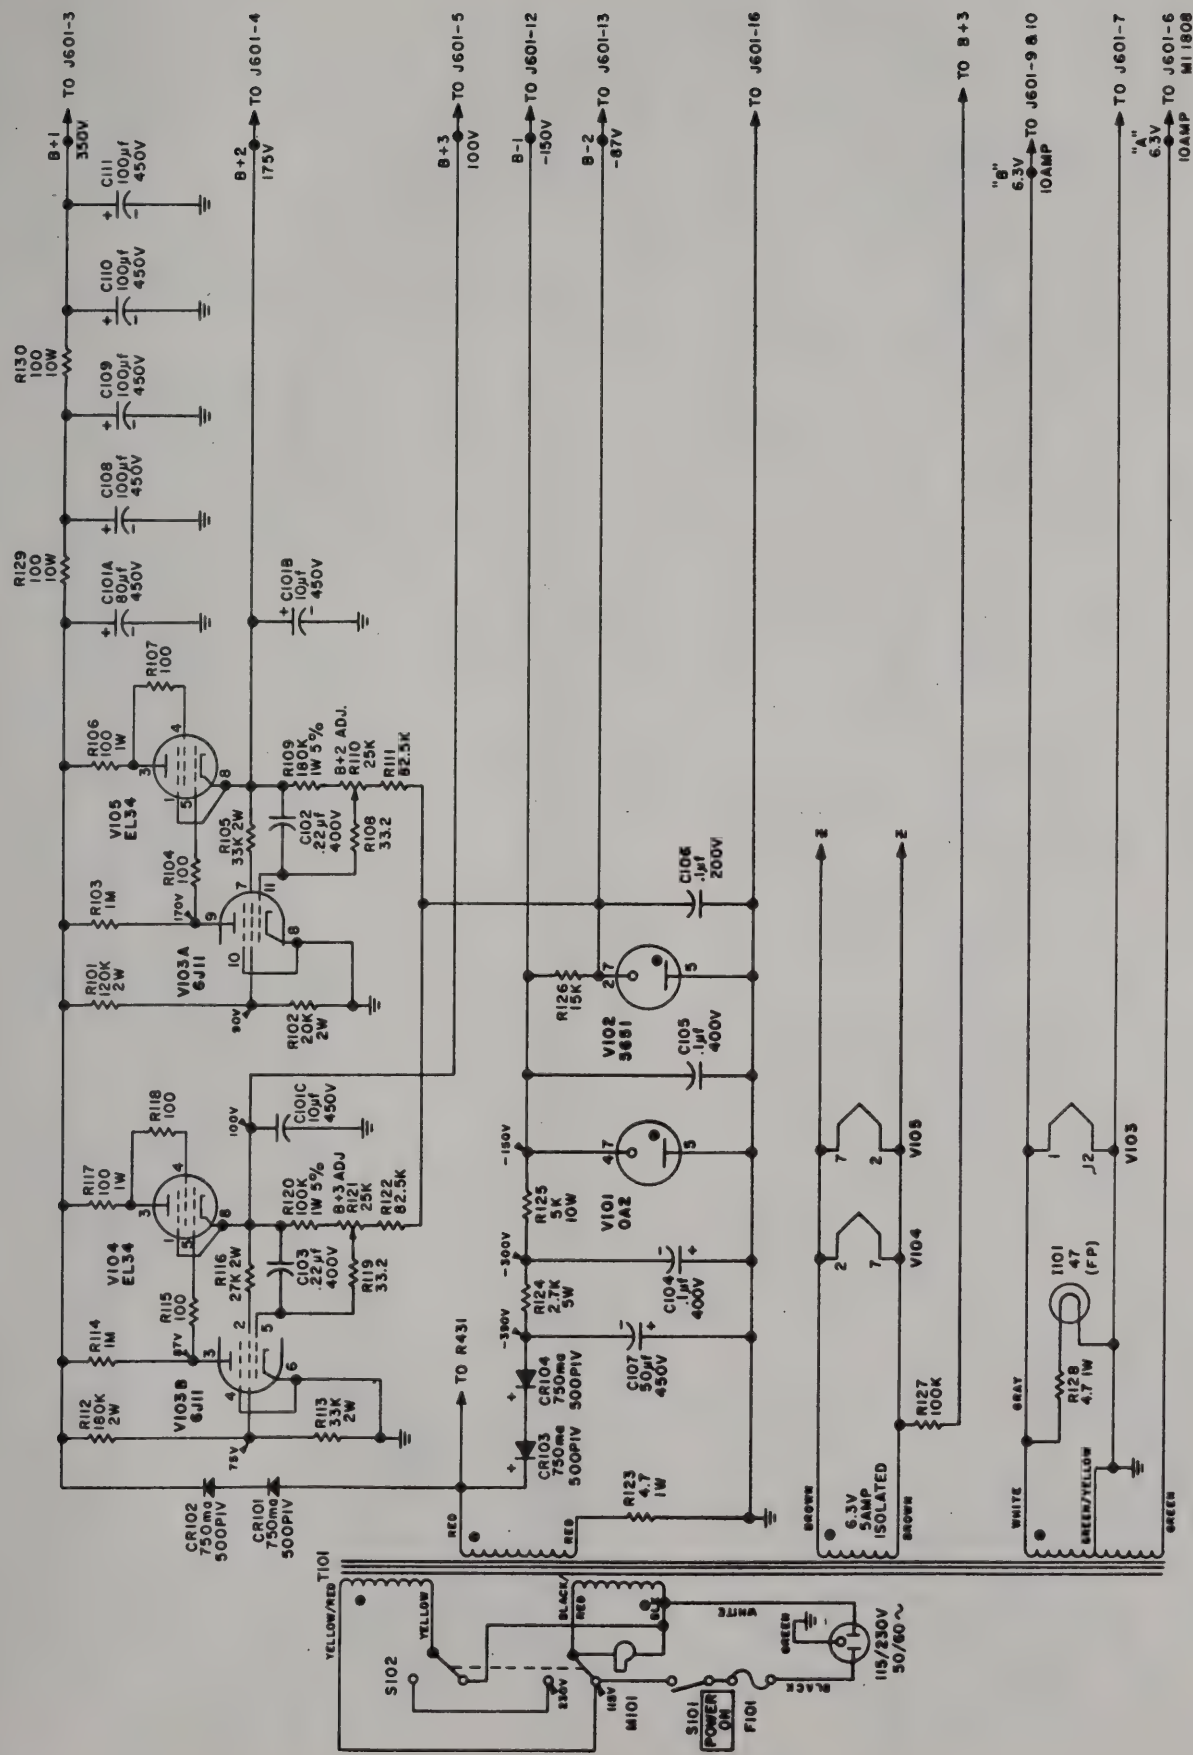

Figure 4-2. Power supply.
a. Theory of operation is described for the SM-2000, the S-100B plug-in, and the three harmonic marker plug-ins. Refer to the functional schematic diagram (fig. 4-1), along with the detailed schematic diagrams (figs. 4-2 through 4-10).
- (1) Power supply
- (2) Automatic level control
- (3) Sweep drive
- (4) Rate generator
- (5) Blanking circuit
- (6) 1-kHz modulation
- (7) Marker system
- (8) Sweep oscillator
- (1) An unregulated +350 vdc (B+1). Not adjustable and not used as an output.
- (2) A regulated +175 vdc (B+2). Adjustable with variable resistor R110.
- (3) A regulated E100 vdc (B+3). Adjustable with variable resistor R121.
- (4) A regulated -150 vdc (B-1). Not adjustable.
- (5) A regulated -87 vdc (B-2). Not adjustable.
- (6) Two oppositely phased 6.3-vac filament voltages A and B with a grounded reference.
- (7) One isolated 6.3-vac filament voltage, Z, operating on +100-vdc level.
b. The power supply (fig. 4-2) employs four half-wave silicon rectifiers. Rectifiers CR101 and CR102 develop the positive voltage, and CR103 and CR104 the negative voltage.
(1) Rectifiers CR101 and CR102 furnish approximately +350 volts to two regulator tubes V104 and V105. The 175-volt output is applied through V105-8 to J601-4. If this voltage should change, a proportional change is felt at V103-11 by the voltage change from the wiper of R110.